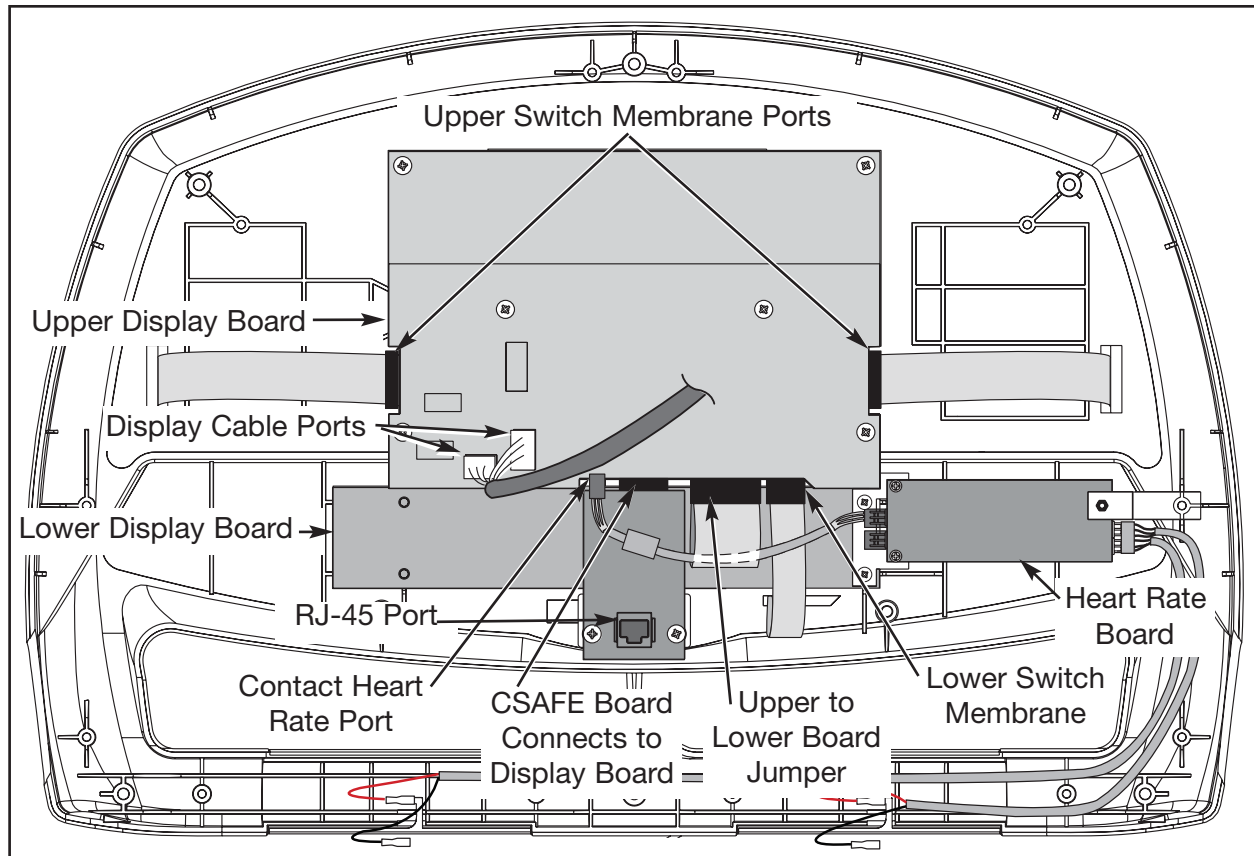

Figure 25 **NOTE:** This figure does not show handrails or lower console back.
- Disconnect these cables from the display board: the display cable (2 connectors); the two upper switch membrane connectors; the lower switch membrane connector; the contact heart rate cable and the upper to lower board jumper. See Figure 25.
- A. Connect these cables into the display board: the display cable (2 connectors); the two upper switch membrane connectors; the lower switch membrane connector; the contact heart rate cable and the upper to lower board jumper. See Figure 25.
- B. Gently pull the CSAFE board down to disconnect it from the display board. See Figure 25.